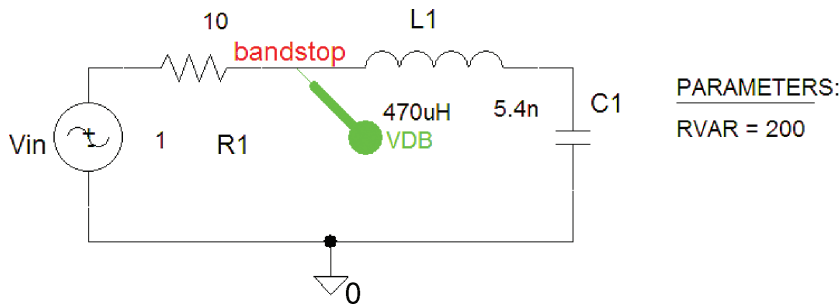

FIGURE 6.43: Series-tuned LCR circuit
- (3) For the LCR circuit in Fig. 6.43, with $V_1(t) = 5 \sin 2\pi f t$, $R_1 = 50 \Omega$, $C_1 = 10 \text{ uF}$, $L_1 = 100 \text{ mH}$, determine the resonant frequency, loaded Q -factor, and maximum peak current. Use a **PARAM** part/**Parametric Sweep** to vary the capacitance to investigate the effect on the resonant frequency and the Q -factor ($Q = 1/r \sqrt{L/C}$).